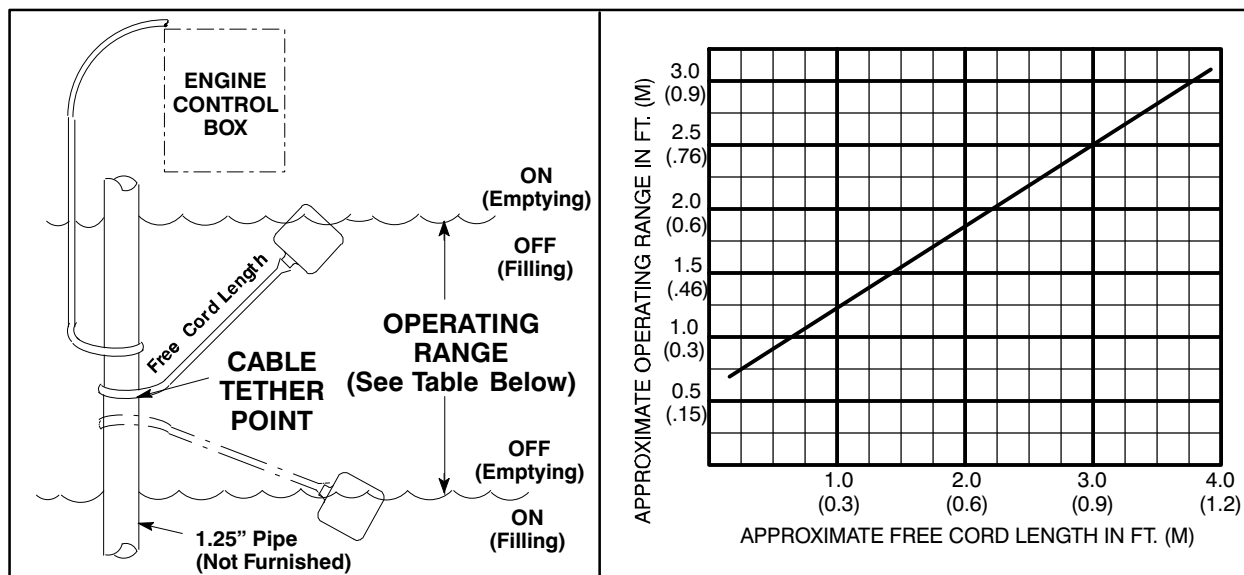

Figure 3. Float Switch Data
- d. Refer to Figure 3 for additional float switch data.